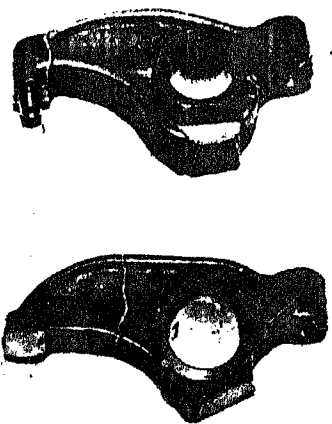

Fig. 3-1-1. Magnetic inspection crack indication
3. Check for surface imperfections by magnetic inspection. Apply coil magnetization, amperage at 300 to 500 with residual Magnaglo. See Fig. 3-1-1 for most likely areas.